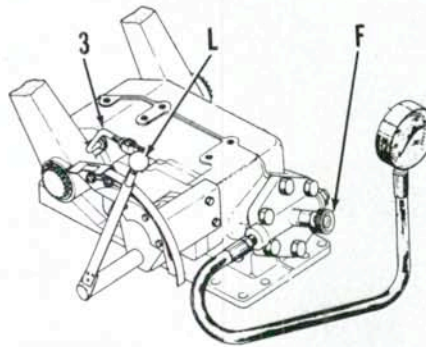

Fig. 261—On 1100, 1200, 1300, 1500, 1700 and 1900 models, connect pressure gage to cylinder head as shown to check relief valve pressure setting. Refer to text.
172. RELIEF PRESSURE. To check system relief valve pressure setting, move position control lever to full lower position and disconnect position control rod (3—Fig. 261). Remove plug from test port in lift housing cylinder head and install a 0-20000 kPa (0-3000 psi) pressure gage as shown in Fig. 261. Start engine and operate at high rpm. Move control lever (L) to fully raise lift arms and observe pressure reading on gage. Relief valve opening pressure should be 12755 kPa (1850 psi) on 1100,